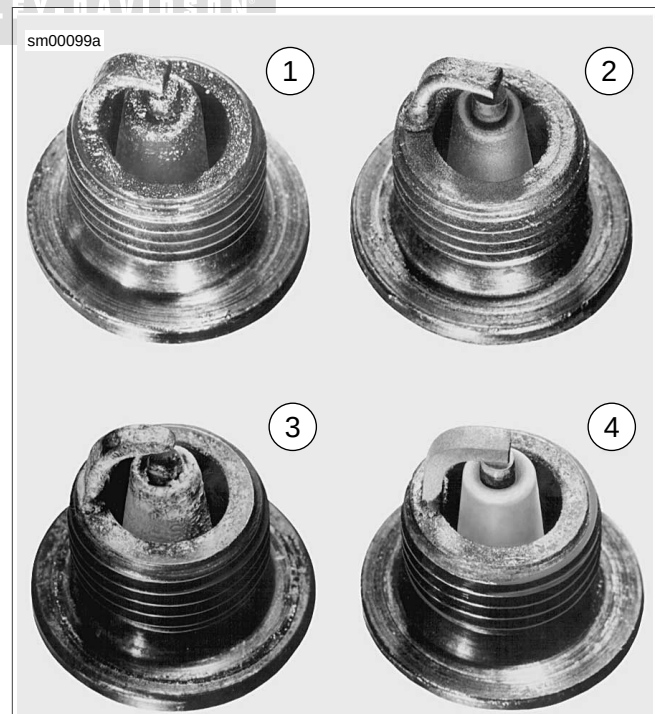

Figure 1-36. Spark Plug Deposits
See Figure 1-36. Compare plug deposits to Table 1-11.
* See Figure 1-36.